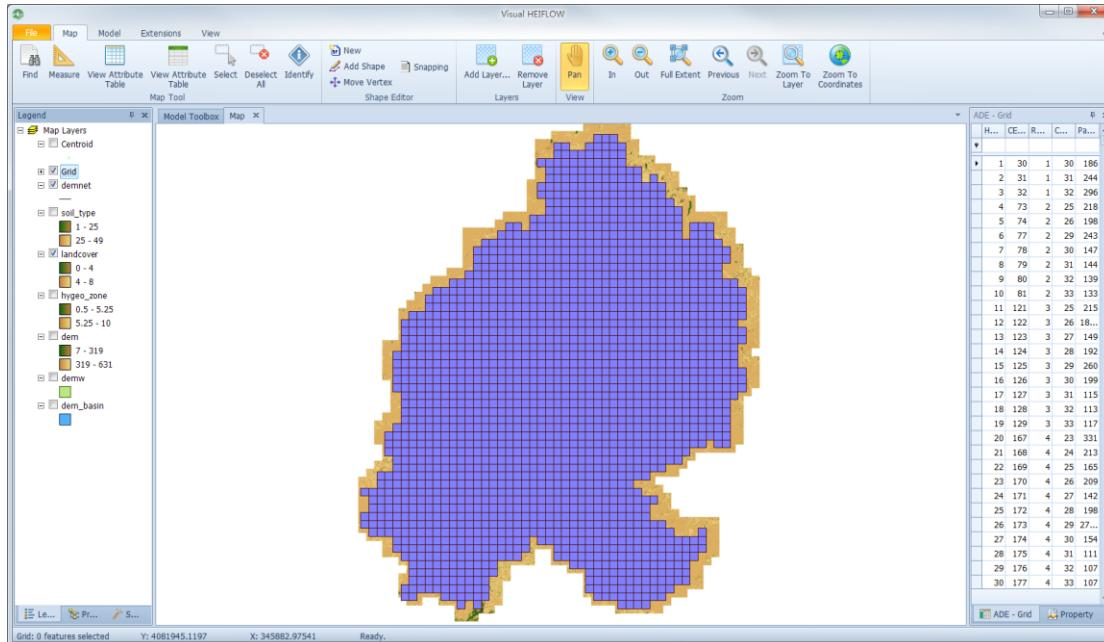

Figure 4-15. Generated model grid and cell centroids.
- Once the grid is created, two new layers “Grid” and “Centroid” will added to the map as shown in Figure 4-15.